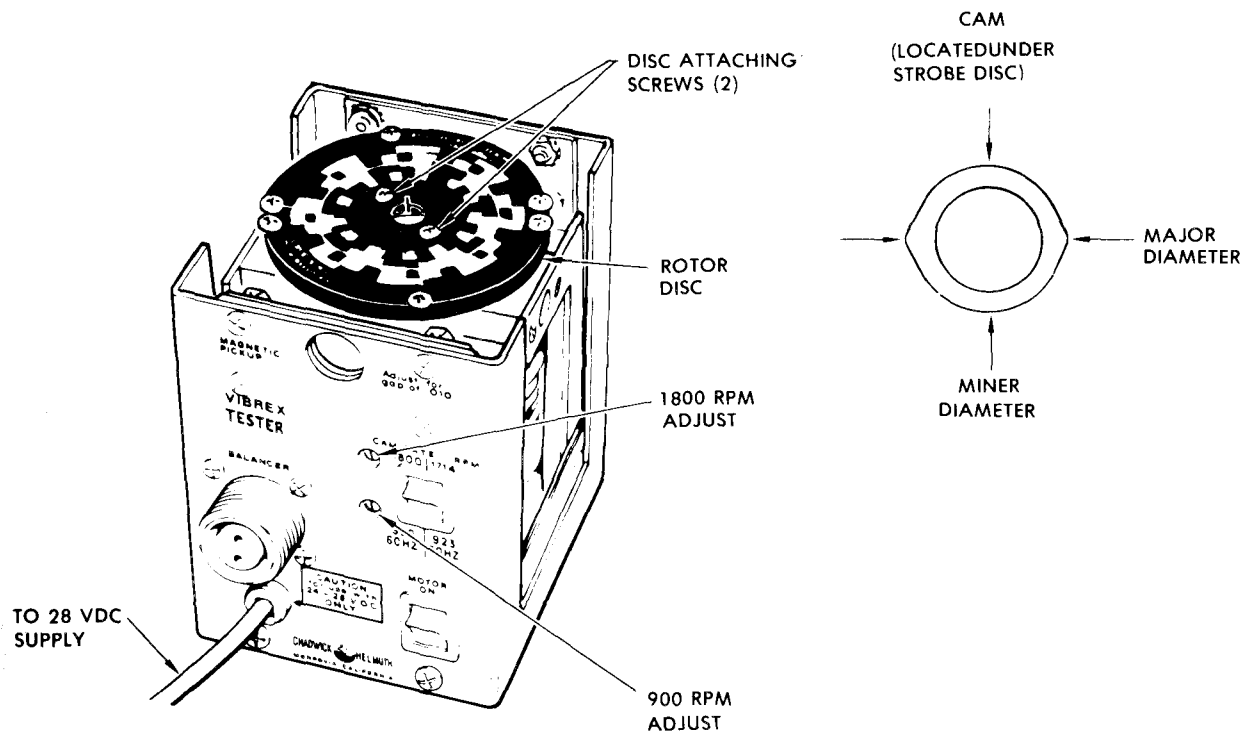

Figure 4-13. Tester Test Setup
g. Remove two screws and remove rotor disc. Use a precision micrometer caliper to measure difference between major and minor diameters of cam (Fig. 4-13). Verify that difference is between 0.0166 and 0.0174 inch.